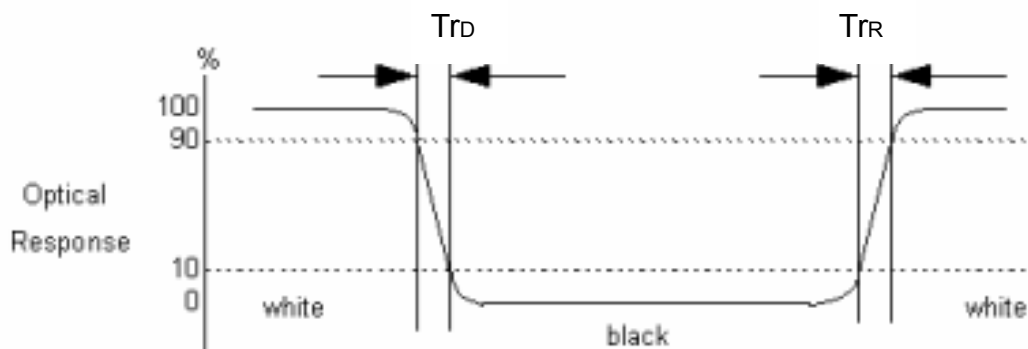

Fig.4-3 Response time
4. Response time is the time required for the display to transition from white(L_{255}) to black(L_0) (Decay Time, $T_r = T_{rD}$), and from black(L_0) to white(L_{255}) (Rise Time, $T_r = T_{rR}$). For additional information see Fig. 4-3.